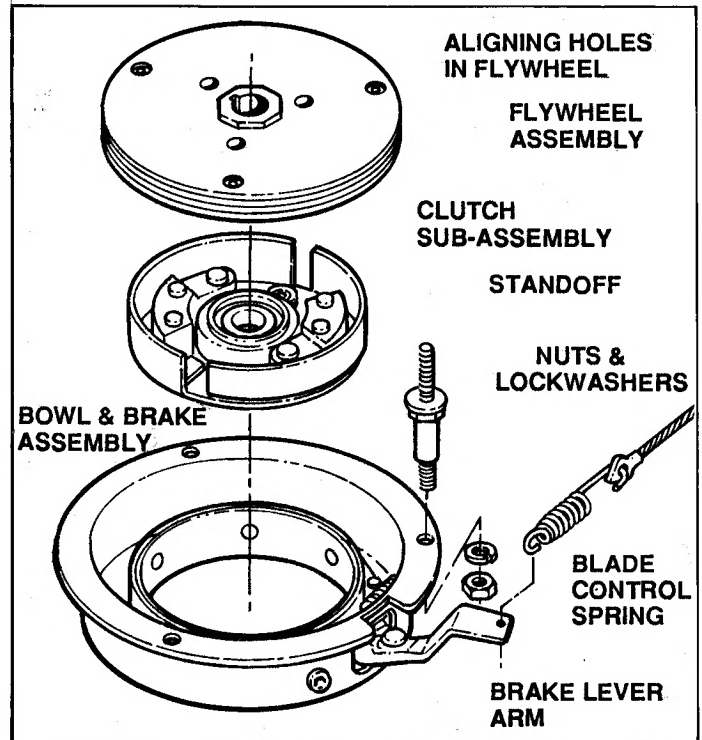

FIGURE 4.24
As shown in Figure 4.24, the holes in the flywheel and bowl will line up. A drift pin or screwdriver can be inserted in the holes to lock the two components together. This helps when installing or removing the CLUTCH MOUNTING BOLT in the end of the crankshaft.
7. Remove nuts and lockwashers from BOWL & BRAKE ASSEMBLY. See Figure 4.24.